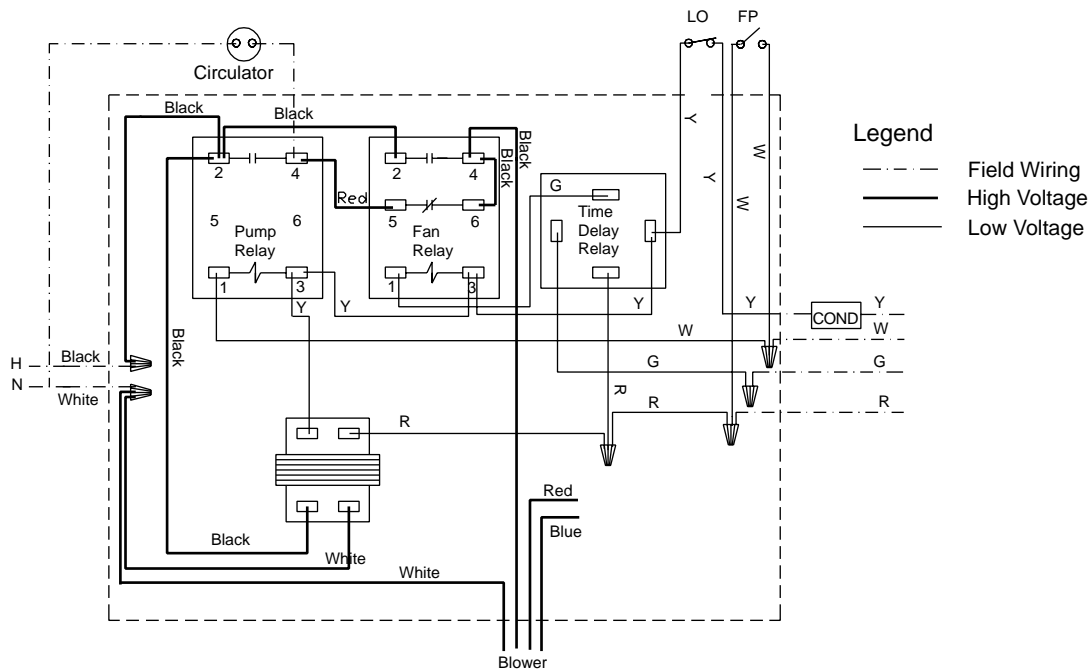

Fig. 1: Factory Wiring Diagram
7. Disconnect wires from FP-Switch from the control circuit. See: Fig. 1.
3. Reattached FP-Switch to the control circuit. See Fig: 1.